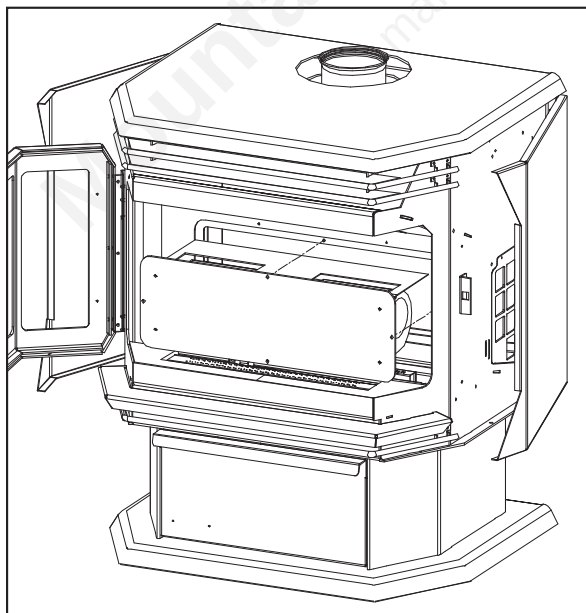

Figure 8: Blower (Fan) Removal.
4. Remove the four (4)  $\frac{5}{16}$ " bolts that hold the blower mounting plate to the back firewall. Use a light lubricating oil on screws before removal.
5. Carefully pull the blower assembly into the firebox (see Figure 8) disconnect the blower leads from the harness and remove blower.